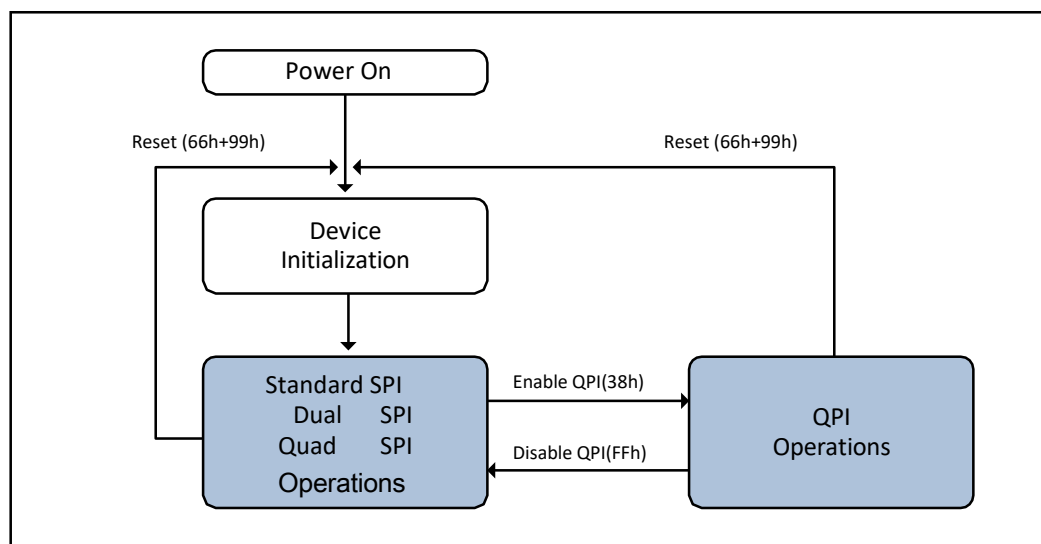

Figure 3. DS25Q64A Serial Flash Memory Operation Diagram
The DS25Q64A supports Quad Peripheral Interface (QPI) operations only when the device is switched from Standard/Dual/Quad SPI mode to QPI mode using the “Enter QPI (38h)” instruction. The typical SPI protocol requires that the byte-long instruction code being shifted into the device only via DI pin in eight serial clocks. The QPI mode utilizes all four IO pins to input the instruction code, thus only two serial clocks are required. This can significantly reduce the SPI instruction overhead and improve system performance in an XIP environment. Standard/Dual/Quad SPI mode and QPI mode are exclusive. Only one mode can be active at any given time. “Enter QPI (38h)” and “Exit QPI (FFh)” instructions are used to switch between these two modes. Upon power-up or after a software reset using “Reset (99h)” instruction, the default state of the device is Standard/Dual/Quad SPI mode. To enable QPI mode, the non-volatile Quad Enable bit (QE) in Status Register-2 is required to be set. When using QPI instructions, the DI and DO pins become bidirectional IO0 and IO1, and the /WP and /HOLD pins become IO2 and IO3 respectively. See Figure 3 for the device operation modes.